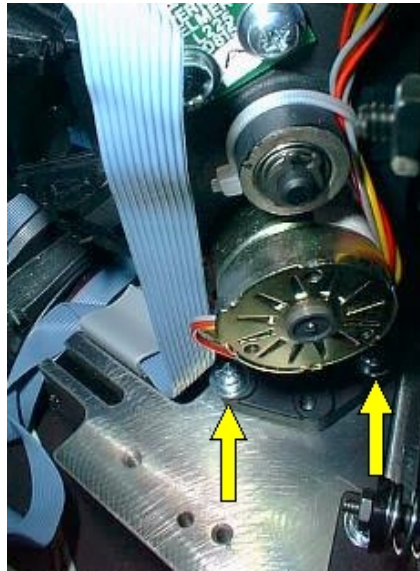

Figure 106 Excitation wheel screws
4. Undo the two screws and remove the excitation filter wheel, as shown in Figure 106.